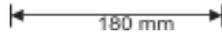

Fig. 13
**Example 15.** A symmetric I-section of size 180 mm × 40 mm, 8 mm thick is strengthened with 240 mm × 10 mm rectangular plate on top flange as shown in Fig. 13. If permissible stress in the material is 150 N/mm2, determine how much concentrated load the beam of this section can carry at centre of 4 m span. Given ends of beam are simply supported.